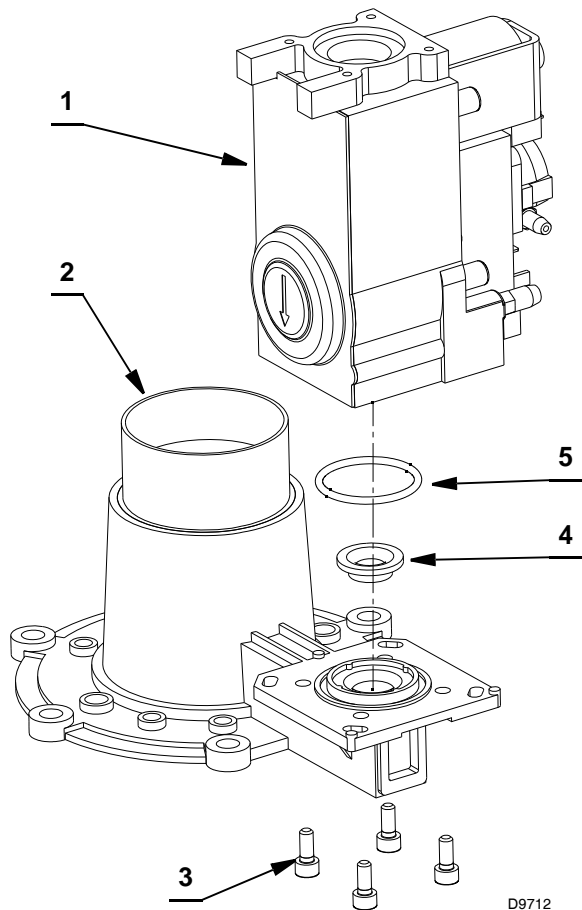

Fig. 12
- Disassemble the gas valve 1) (Fig. 12) from the venturi unit 2), removing the screws 3).